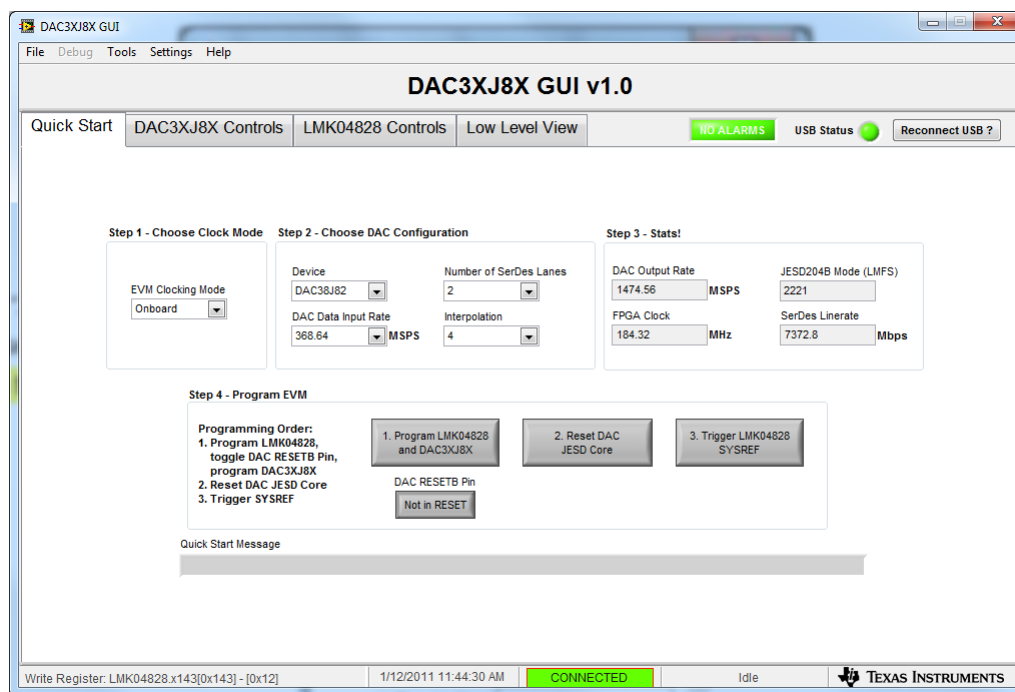
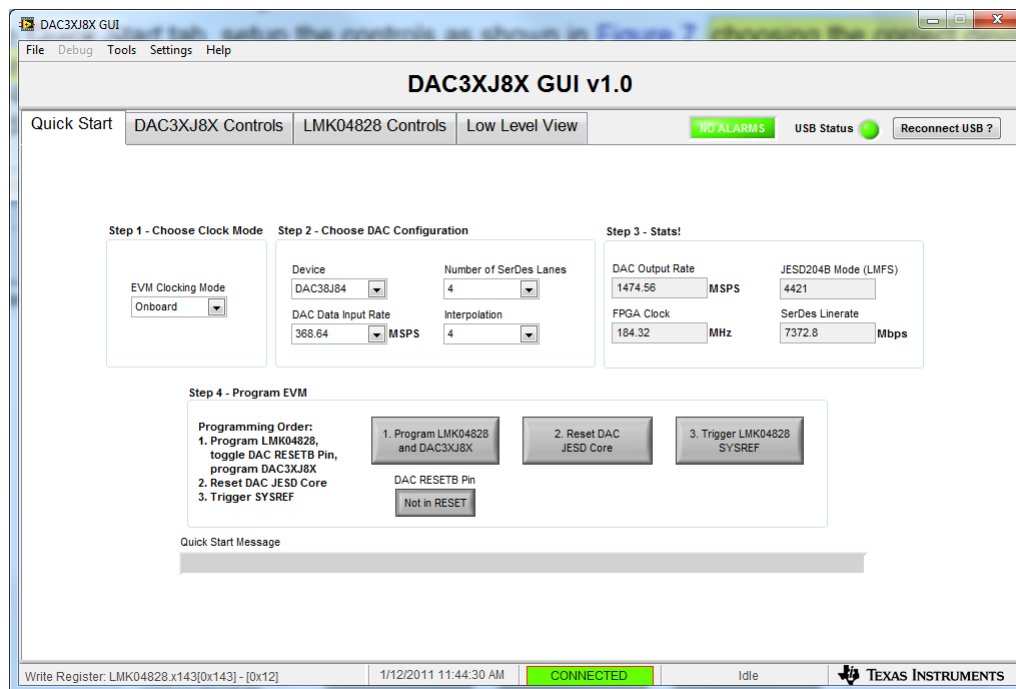

Figure 7. DAC3XJ8X GUI Configuration for DAC37J82, DAC38J82, and DAC39J82
Figure 8. DAC3XJ8X GUI Configuration for DAC37J84, DAC38J84, and DAC39J84
- On the *Quick Start* tab, setup the controls as shown in Figure 7 for the DAC3XJ82, or Figure 8 for the DAC3XJ84, respectively. This configures the DAC3XJ8X EVM to use clocks generated onboard by the LMK04828 and 122.88 MHz VCXO. The DAC will be programmed for 1 lane per DAC, 4x interpolation, and an input data rate of 368.64 MSPS.